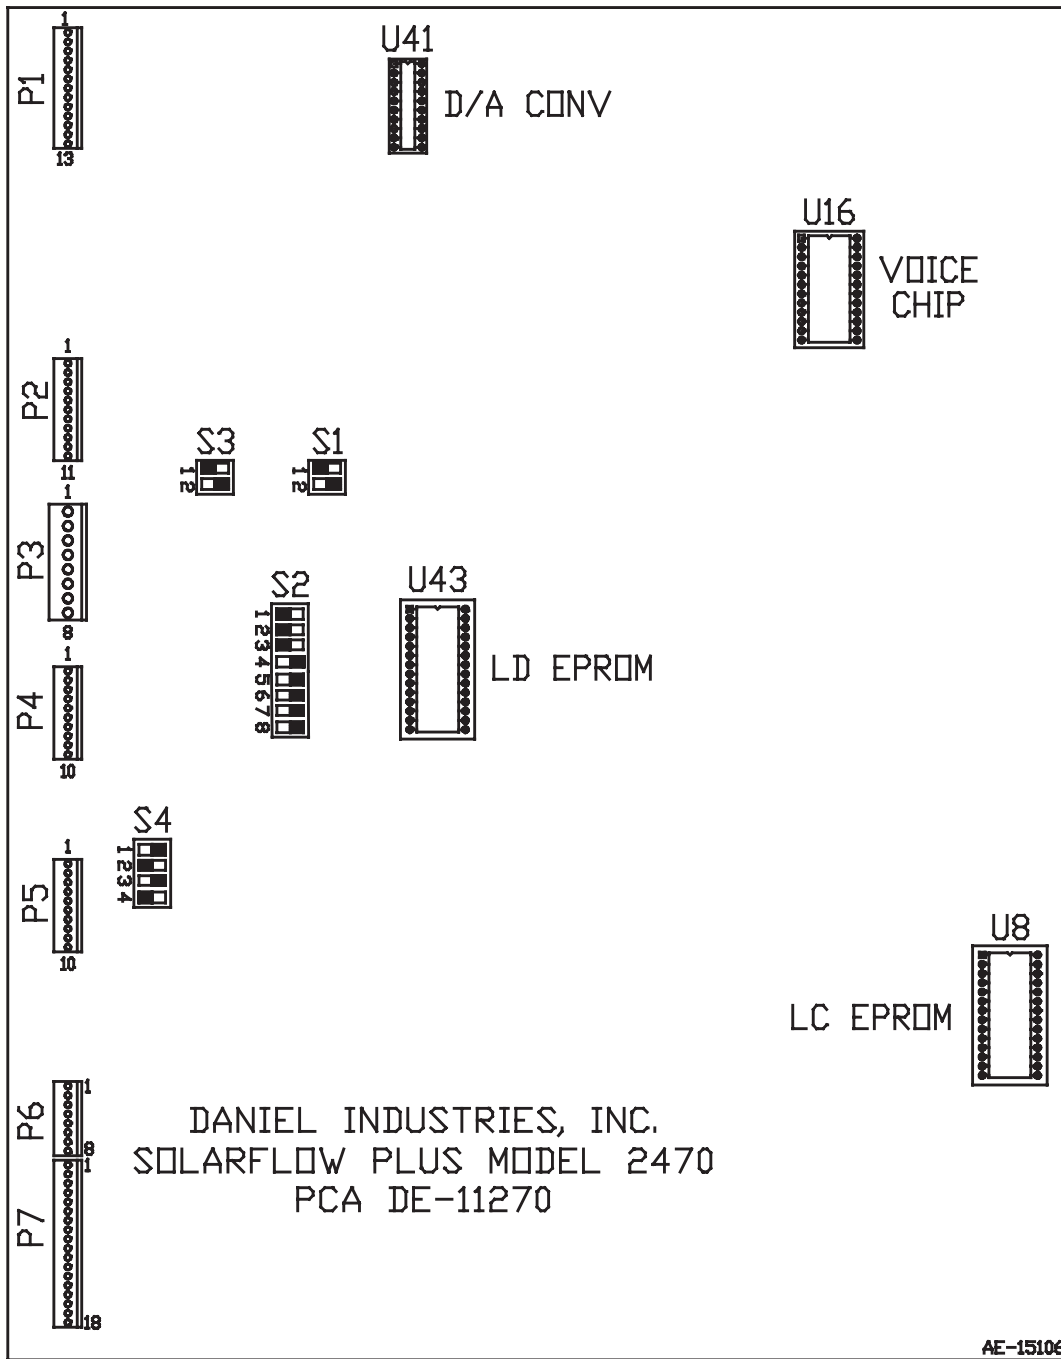
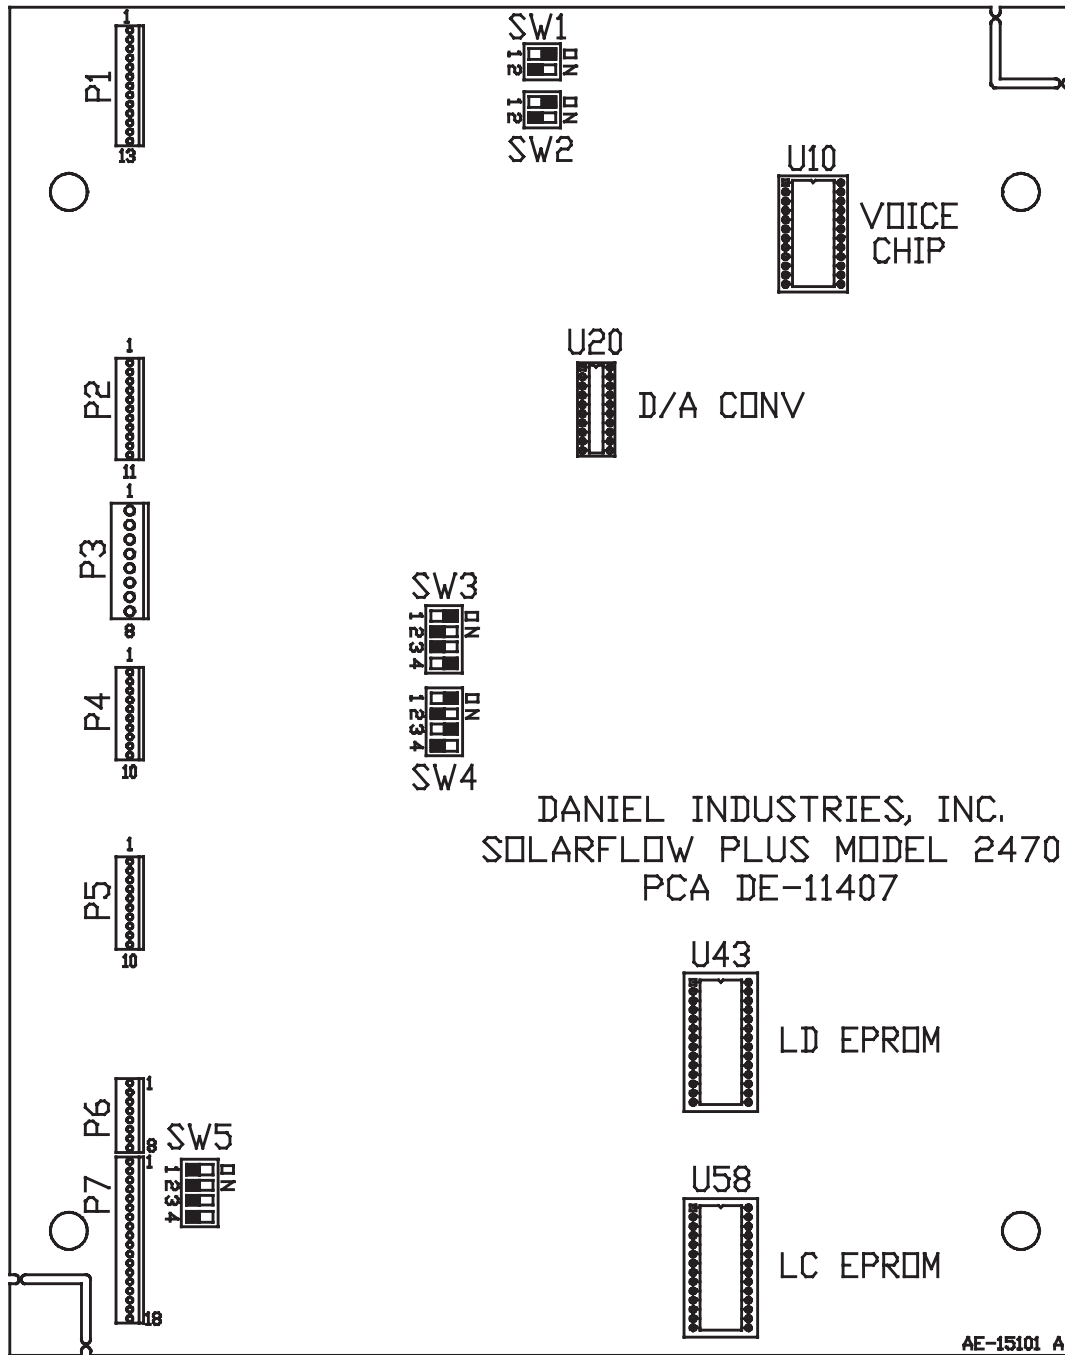

Figure 1. Model 2470 Slide Switch Locations
Figure 2. Model 2470 Slide Switch Locations
The main printed circuit (PC) Board of a SolarFlow Plus unit has several sets of slide switches that are factory set for the application installed in the unit. Figure 1 illustrates the locations *only* of the slide switches on the older PC board. This Application Manual shows the slide switch settings for this application. Figure 2 illustrates the locations *only* of the slide switch settings of the newer PC board. The PCA number on the illustration specifies the assembly of this particular board. *If you have a newer PC board (3-2470-008), the switch reference designators are different, see paragraph 1.13.1.* Note that the slide switches use SW- reference designators on the newer PCB. For a full discussion of the slide switch settings or if the application is changed, refer to the System Reference Manual. Check your installation switch settings with the following tables.
(Refer to Figure 1.)
These slide switch settings are for newer PC Board 3-2470-008. These settings will be set at the factory when the application is known. Figure 2 illustrates the locations *only* of the slide switch settings of the newer PC board. Note that the slide switches use SW- reference designators on this newer PCB. For a full discussion of the slide switch settings or if the application is changed, refer to the System Reference Manual. Check your installation switch settings with the following tables.
(Refer to Figure 2.)